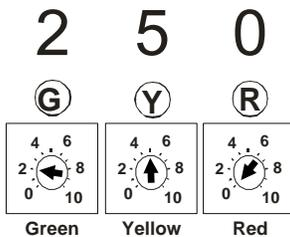
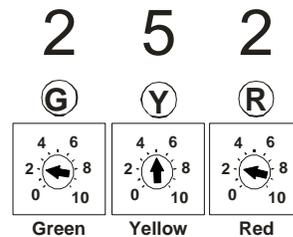

FIGURE 4
FIGURE 5
1. Start with the base setting in Figure 4 if a full exhaust system is installed. If a full exhaust system is installed in combination with a Cobra PowrFlo™ Air Intake System use the setting in Figure 5. Refer to Step 2 if the stock exhaust is installed or a slip-on muffler is being used to determine the proper pot settings. Adjust and test only ONE adjustment pot at a time until you are happy with the result.